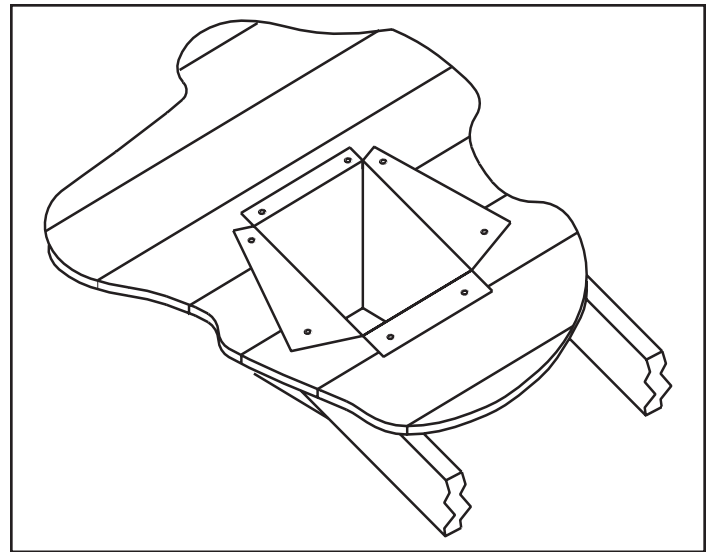

Figure 5.18
**Step 4** - Using tin snips, cut the support box from the top corners down to the roof line, and fold the resulting flaps over the roof sheathing (Figure 5.18). Before nailing it to the roof, run a bead of non-hardening mastic around the top edges of the support box to make a seal between it and the roof. Clean out any combustible material from inside the support box.